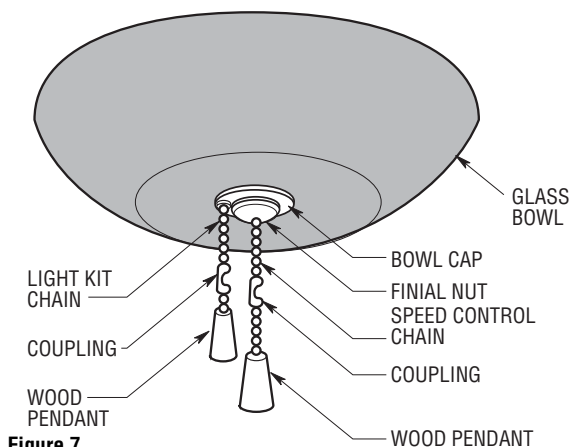

Figure 7
9. Gently place the glass bowl onto the light fixture (Figure 7). Then place the bowl cap onto the threaded light fixture, route the fan speed control chain through the outer hole and the fitter chain through the center hole. Install and tighten the finial nut onto the threaded light fixture (Figure 7).